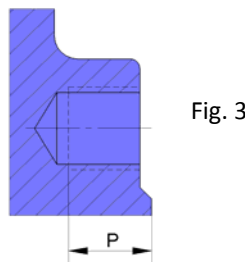

Fig. 3
- The screws in the tapped blind holes will have a maximum depth (Fig. 3) and will never reach the bottom of the hole. The following table (Table 1) shows the maximum thread depth in the holes and the maximum torque to be applied to the flange screws: